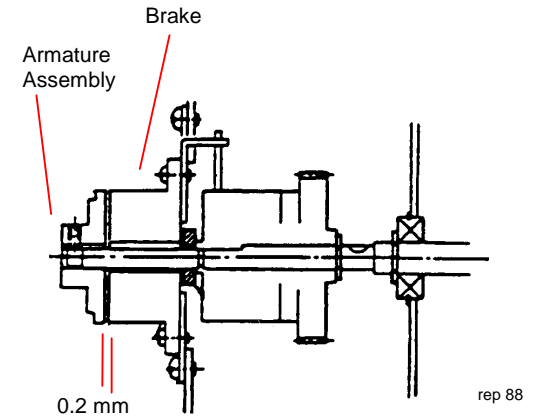

Figure 2. Setting the Brake Gap
1. (Figure 2): Set the gap between the Field Assembly and the Armature Assembly to 0.2 mm.